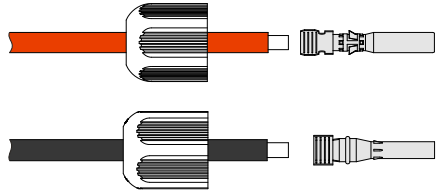

Figure 3-37 Crimp metal terminals
Step 2 Loosen the lock nuts of the positive and negative connectors, draw the positive and negative wires through the corresponding lock nuts, and use a crimping tool to press the positive wire and negative wire to the positive and negative metal terminals respectively, as shown in Figure 3-37.